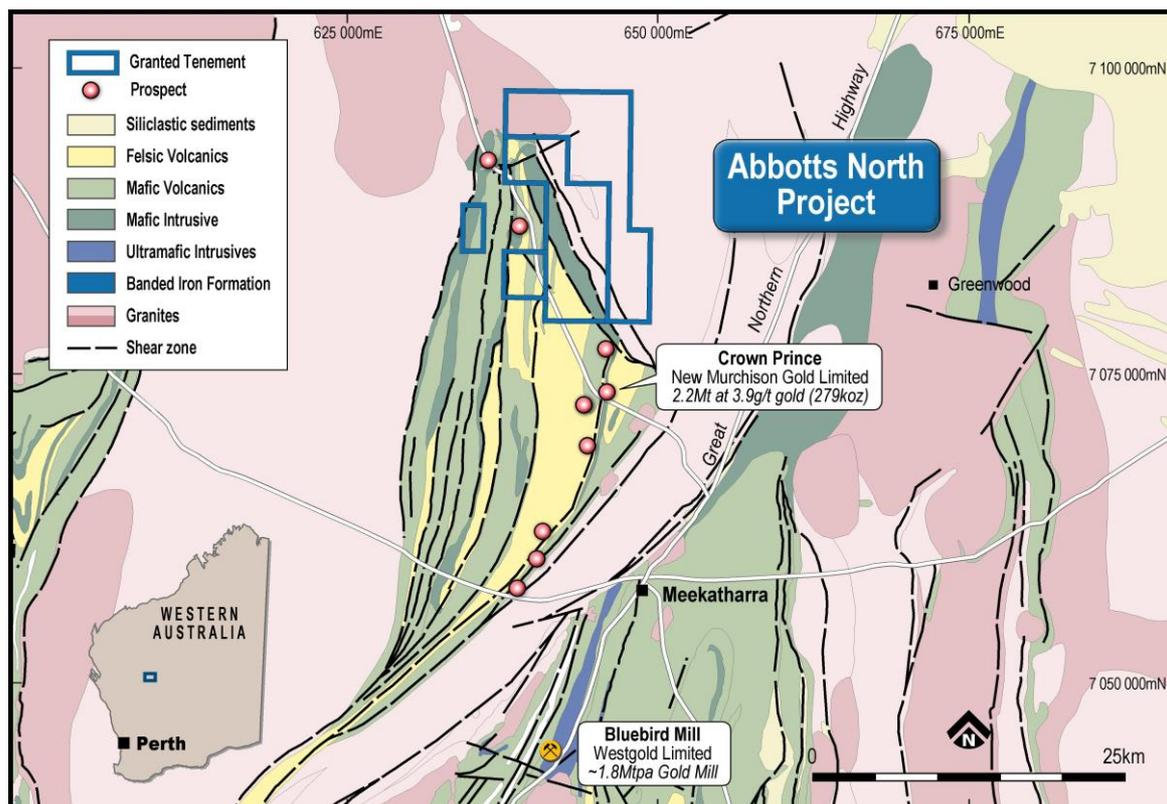

Figure 1: Abbots North project location and regional geology
**Premier1 Lithium Limited (ASX:PLC)** ("**Premier1**" or the "**Company**") is pleased to announce the completion of a high-resolution ground gravity survey at the Rochefort Gold Prospect ("Rochefort"), part of its Abbotts North Project ("Abbotts North"). The project is located approximately 35 km north of Meekatharra in Western Australia's highly endowed Murchison region (*Figure 1*) and ~20 km north of the producing Crown Prince deposit (2.2Mt @ 3.9g/t Au for 279koz) owned by New Murchison Gold Ltd, within the same Abbotts Greenstone Belt.
The Project falls within the Abbotts Greenstone Belt in the northern Murchison Domain of the Yilgarn Craton. The belt forms part of the northeast-trending Meekatharra Structural Zone and is structurally positioned between the Carbar Fault and Chunderloo Shear Zone. The margins of the belt are structurally complex, and the belt is bounded to the east, west and north by granites and monzogranites (*Figure 1*).
Approximately 4 km south of the Abbots North Project lies the Crown Prince deposit, owned by New Murchison Gold Ltd (ASX:NMG) (*Figure 1*). Situated on a splay off the major Abernethy Shear Zone - which runs along the southeastern margin of the Abbots Greenstone belt - the structure, along with parallel splays, is interpreted to extend northward into Premier1's tenure.